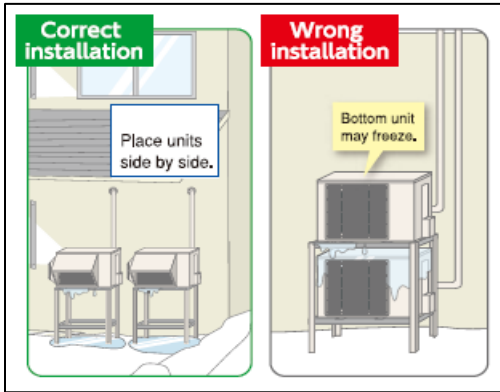

Figure 1: Units installed side by side
- Do not install outdoor units on top of one another as it may cause freezing damage to the bottom unit. Instead, place the units side by side (**as per figure 1 below**).